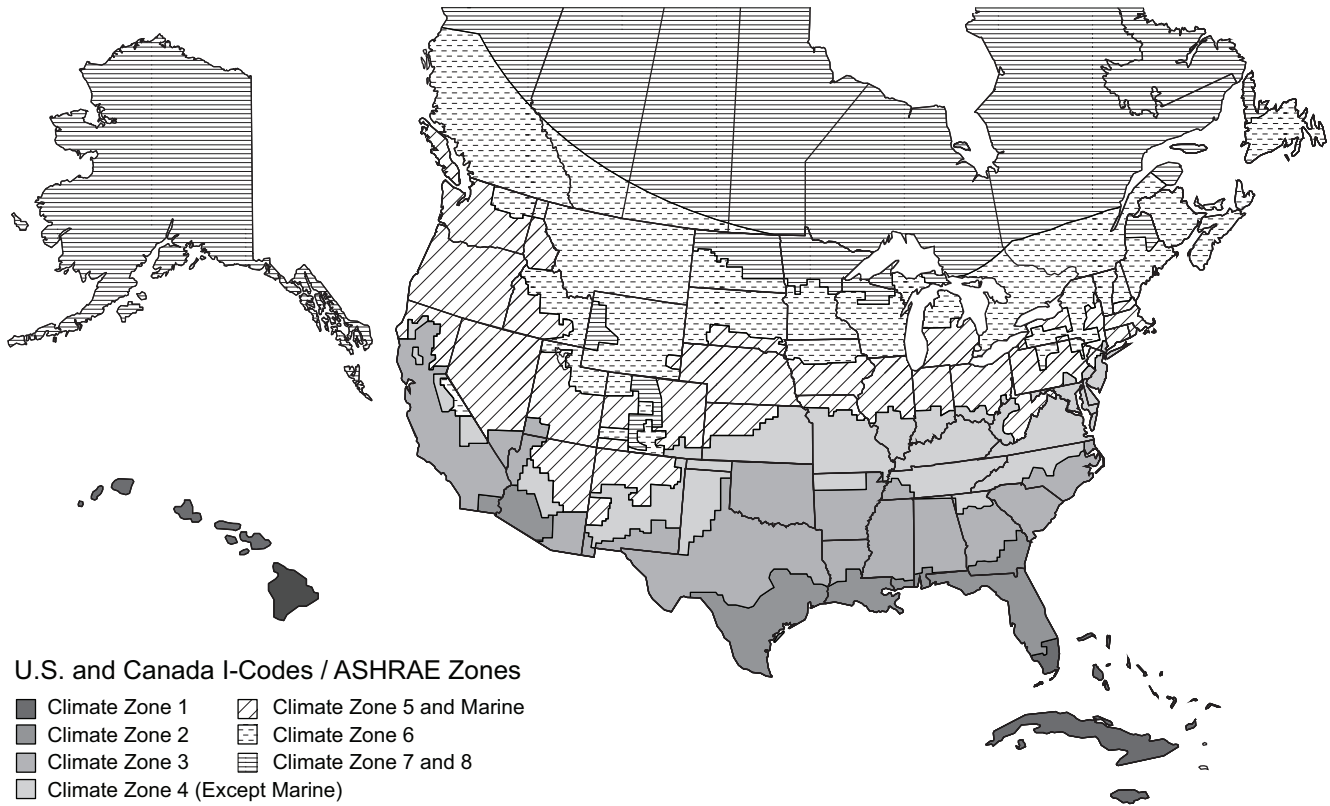

Fig. 89 — U.S. and Canada Climate Zones
- a. See Fig. 89 for map of U.S. and Canada climate zones.